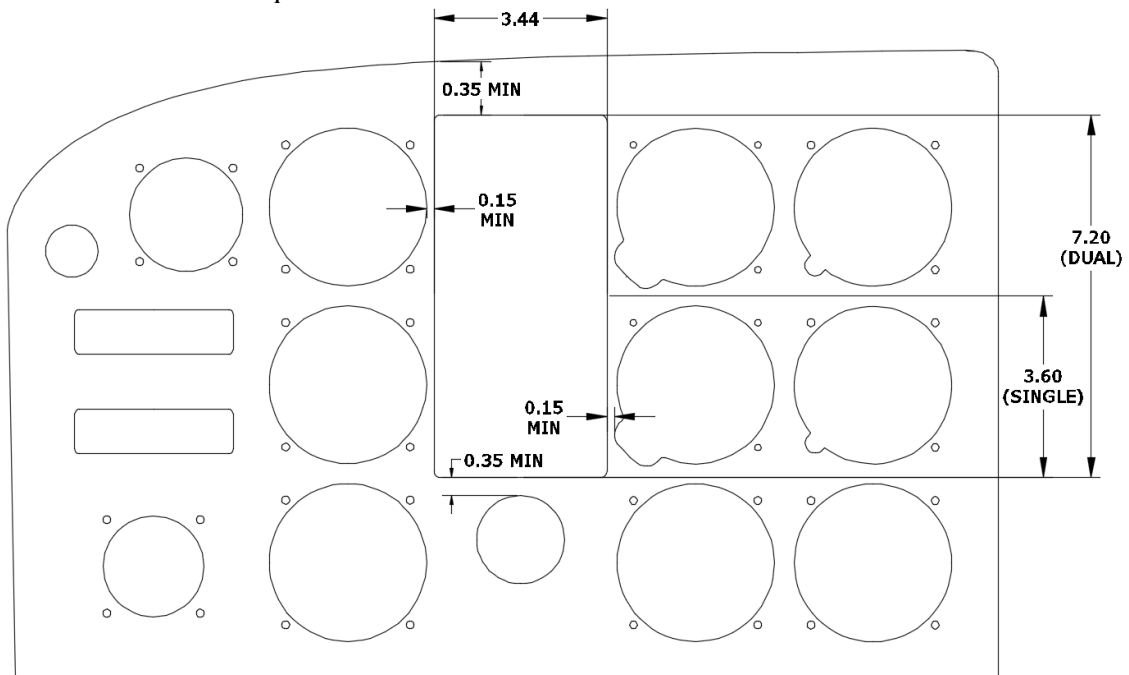

Figure 4-22 Instrument Panel Limitations
- 3) The hole must meet the limitations and minimums as shown in Figure 4-22.